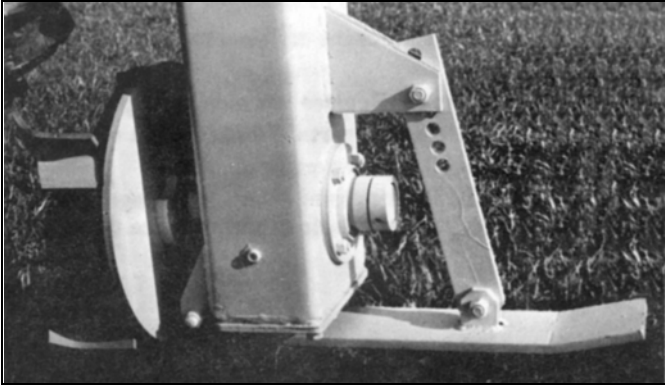

Figure 4-2: Adjusting Bar
1. The adjusting bar should be initially set with the bottom of the skid about 1/2" to 1" above the bottom of the blades (**See Figure 4-2.**) This will allow the ditcher to reach normal cutting depth after a few feet of forward travel. The adjusting bar should then be adjusted as required to hold a uniform cutting depth.